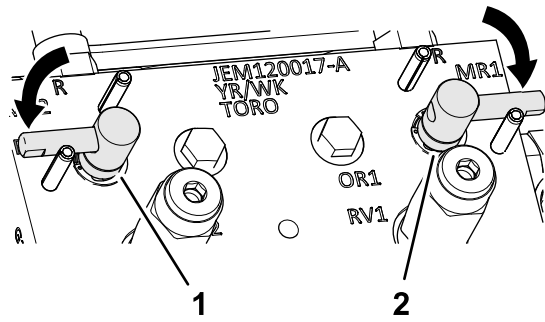

Figure 148
3. Move the backlap levers to the F (mow) position (Figure 148).